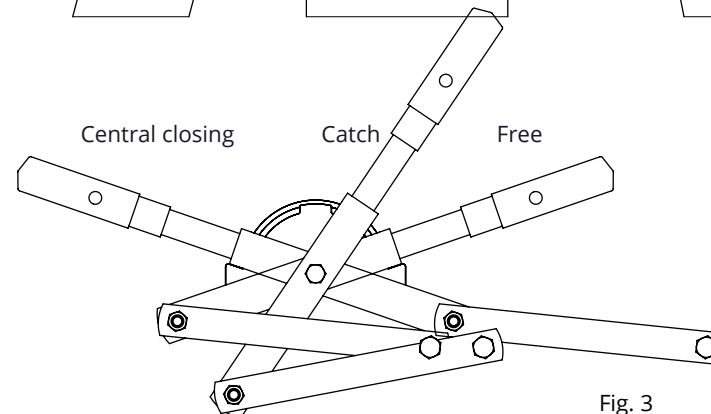

Fig. 3
1. Put the operation handle in the catch position (fig.3) at this moment holes of the operation tube and the C-profile are at the same line.